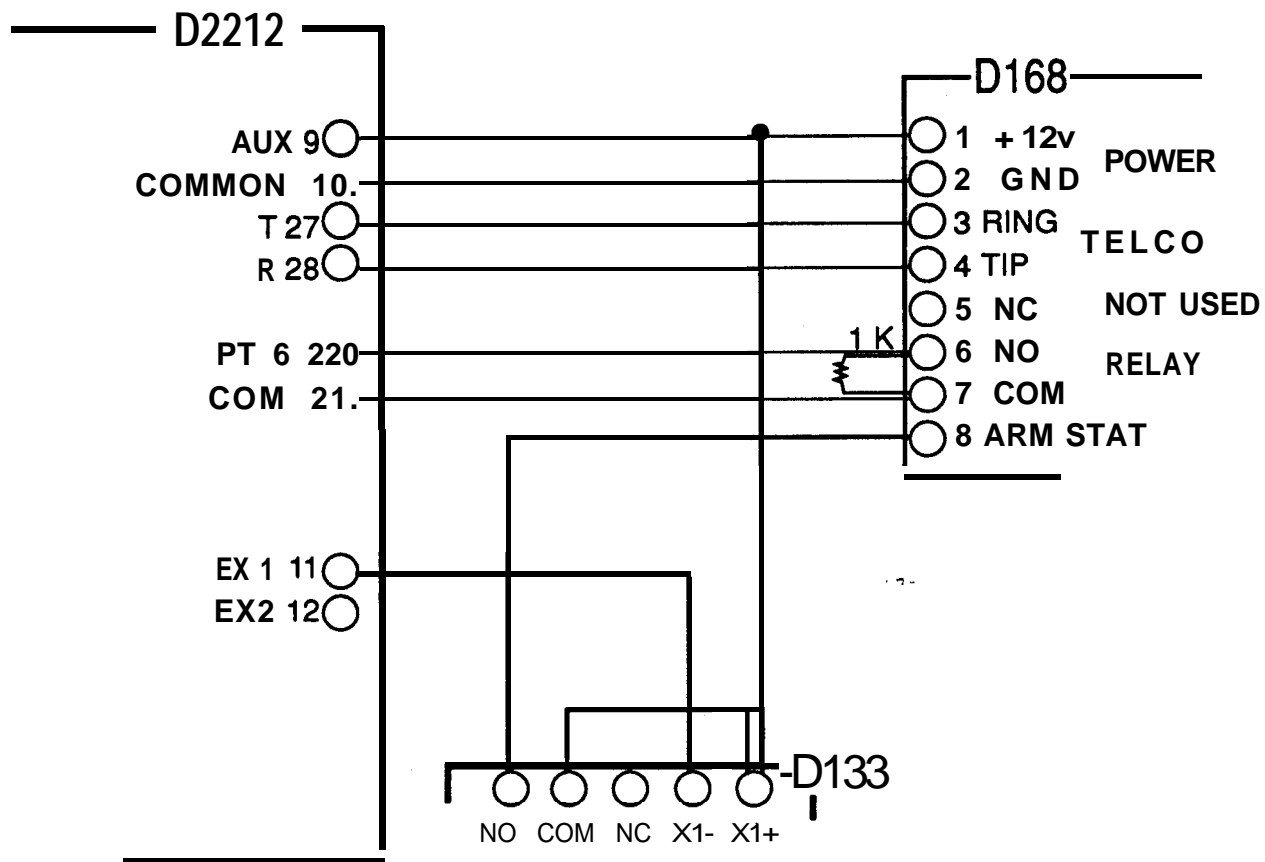

Figure 2
1. Wire the D168 to the D133 and D2212 as shown in Figure 2 on page 2.